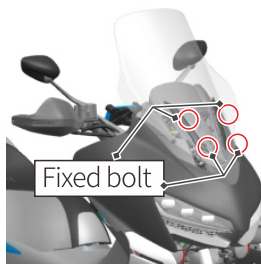

Figure 1
1. First, raise the windshield to the highest position, then turn off the vehicle power, and remove the windshield. (Fig 1: The red circle is the fixed bolt)